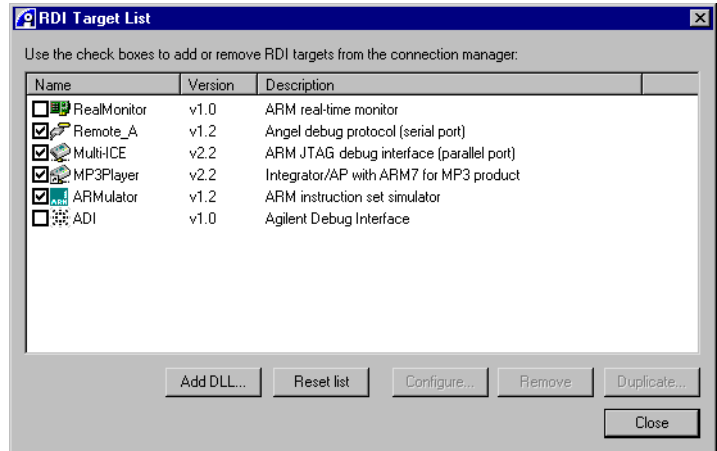

Figure 3-18 The RDI Target List with a new connection
7. Click **OK**. The RDI Target List dialog now looks like Figure 3-18 on page 3-23. The contents of this window depend on the software you have installed.